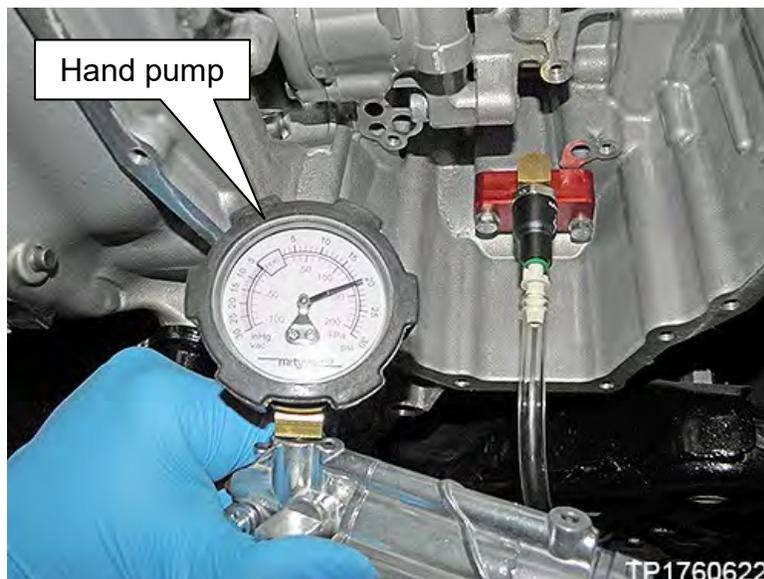

Figure 14
- b. Connect the Hand pump from Evap Pressure Test Kit (J-42909) to the Clutch Engagement Tool (J-52273) and pump to 20 PSI (Figure 14).